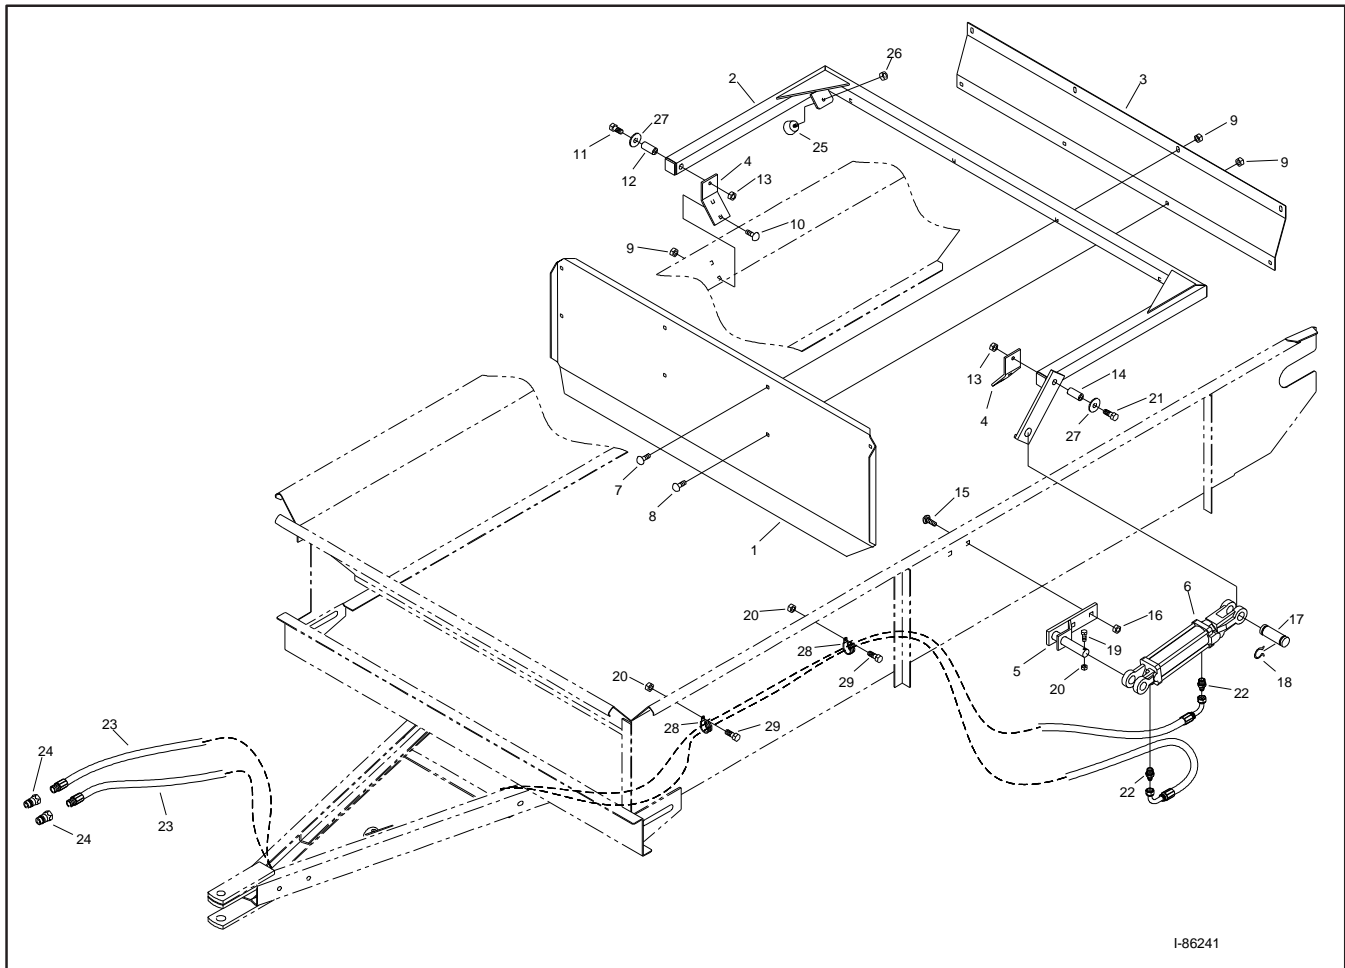

Figure B1 - Hydraulic Endgate Parts Detail
1. Install the two (2) endgate mounting plates (**item #4**) on the inside of the spreader box, using the nuts and bolts provided. Note that the upper half of each bracket will extend above the top of the spreader box.
3. Refer to Figure B1. Mount the endgate (**item #1**) on the frame, using the four (4) 3/8 x 2-1/2" carriage bolts provided.
5. Thread the four (4) 3/8 x 3/4" carriage bolts (**item #8**) through the lower set of holes in the endgate and the endgate brace. Assemble the 3/8" flange nuts onto the bolts.
9. Assemble the hydraulic cylinder (**item #6**) onto the mounting bracket. Use the 1/4" bolt and lock nut to secure as shown in Figure B1.
11. Run the hydraulic hoses through the clamps (**item #28**) on the side of the spreader box as shown. Then, thread the hoses through the channel in the hitch and UP between the hitch members (above the hitch connection) as shown in Figure B1.
ATTENTION: Ensure that the hydraulic hoses are installed as shown in Figure B1. Failure to do so may result in damage to the hoses.